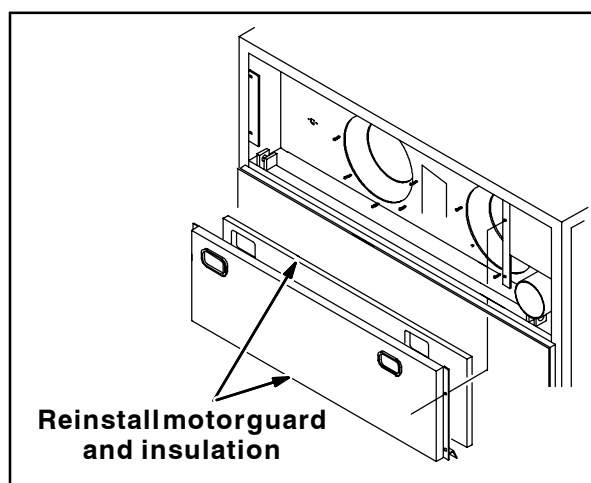

FIG. 33
64. Reinstall the motor guard and the insulation onto the hopper. Refer to Fig. 33.